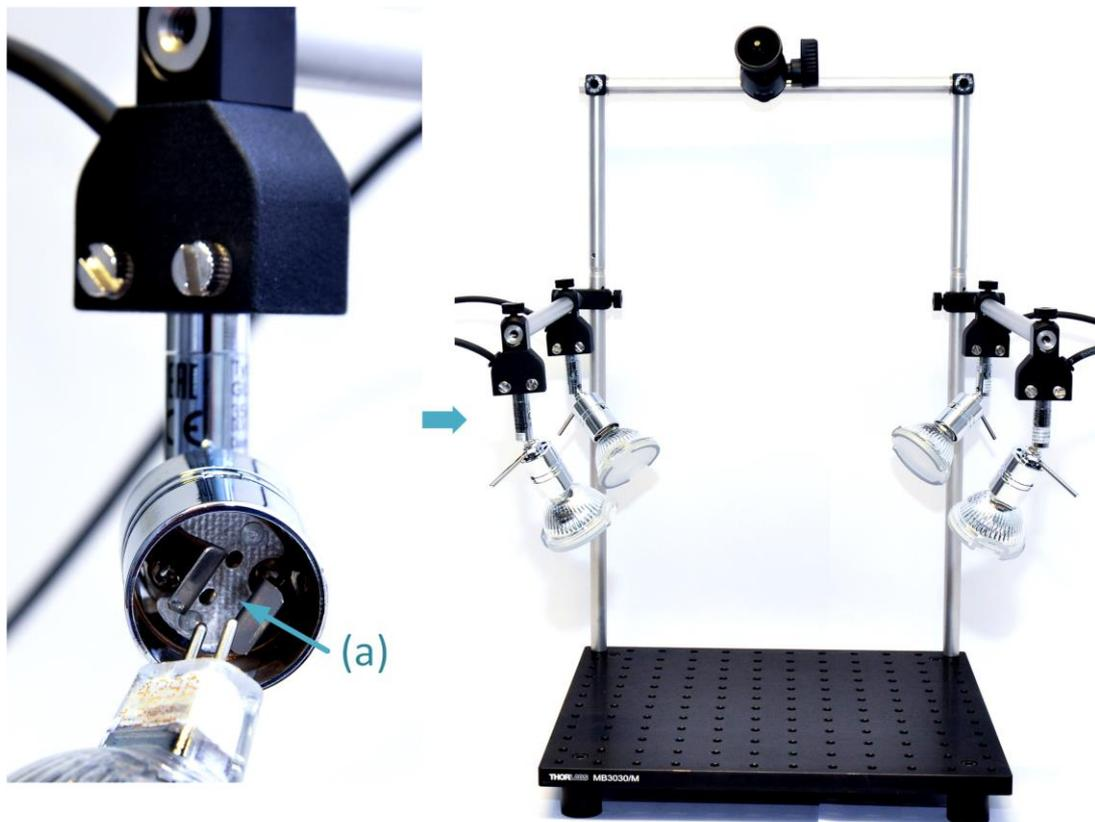

Figure 30 Mounting the lamps into the holders (Step 4.4)
Step 4.4 Mount the lamps into the holders (Figure 30)